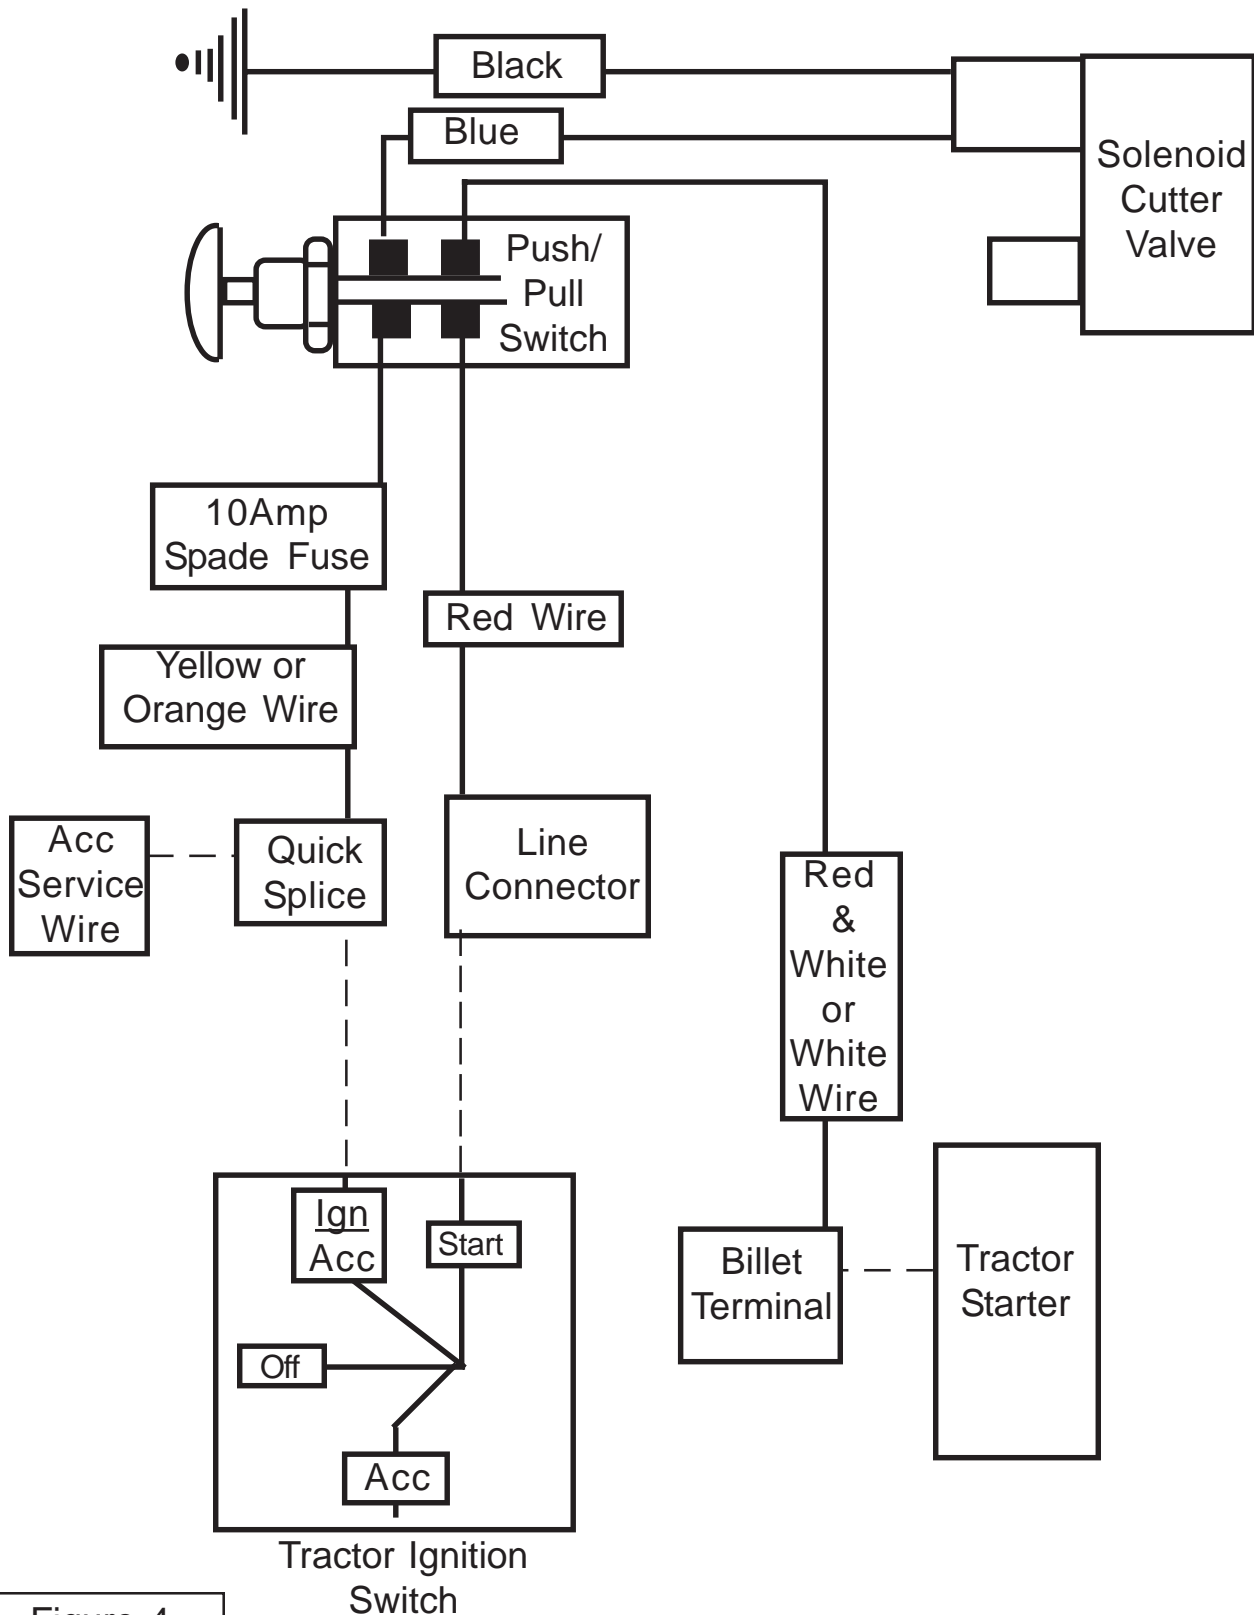

Figure 4
2. Figure 4 illustrates a common wire harness connection for A-Boom mowers with mechanical cable controls, If the Joystick Optional controls are used the Wiring will be different than shown.